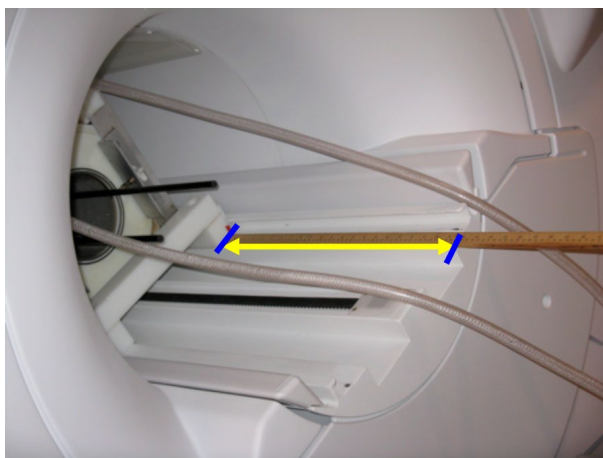

Figure 26. Distance from edge of insert base to edge of bore base
- 1) Position the insert coil at the center of the magnet. The front end of the Insert coil should be aligned with the mark on the magnet bore. If the mark on the magnet bore is not present, the distance from the edge of the bore to the front end of the Insert Coil (Fig. 26) should be as shown in the following table: